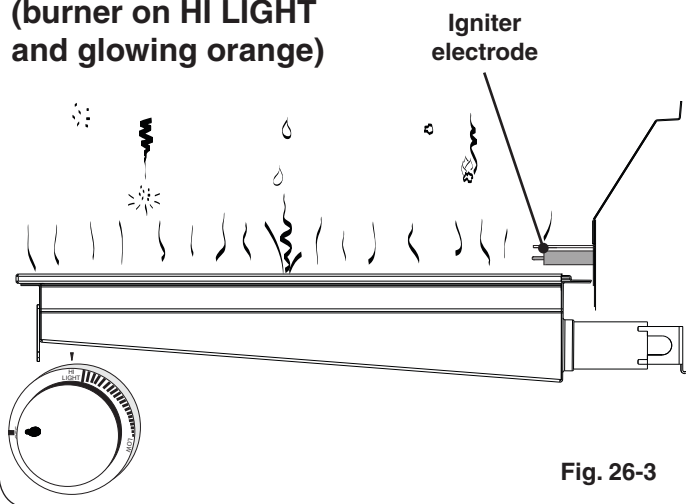

Fig. 26-3
- **DO NOT place food on the cooking grid until the infrared burner glows orange (Fig. 26-3).** Drippings are heated and evaporate instead of sticking to and impairing burner function.